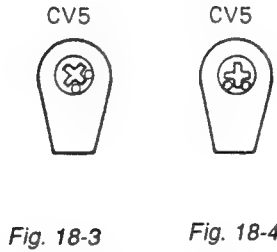

Fig. 18-4
9. Set CV3 (CLK PHASE) and CV4 (CLK PHASE) on the BT board to the position as shown in Fig. 18-4.
11. If it cannot be adjusted with CV3, adjust with CV4 by returning CV3 to the position of Fig. 18-4.